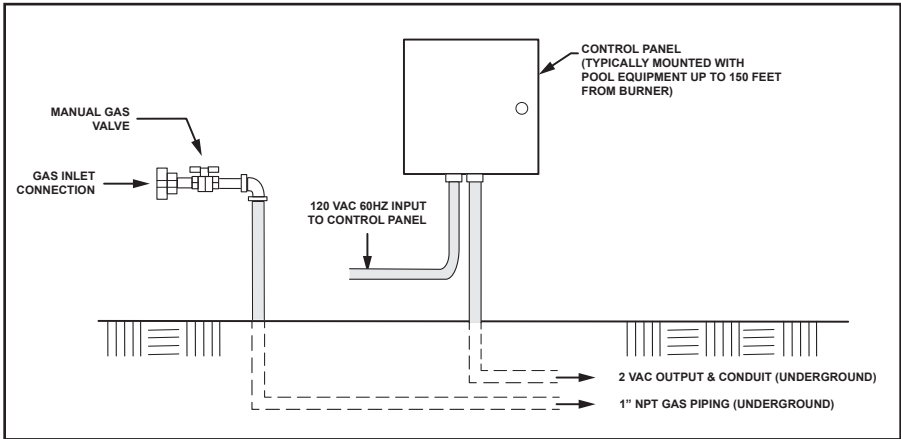
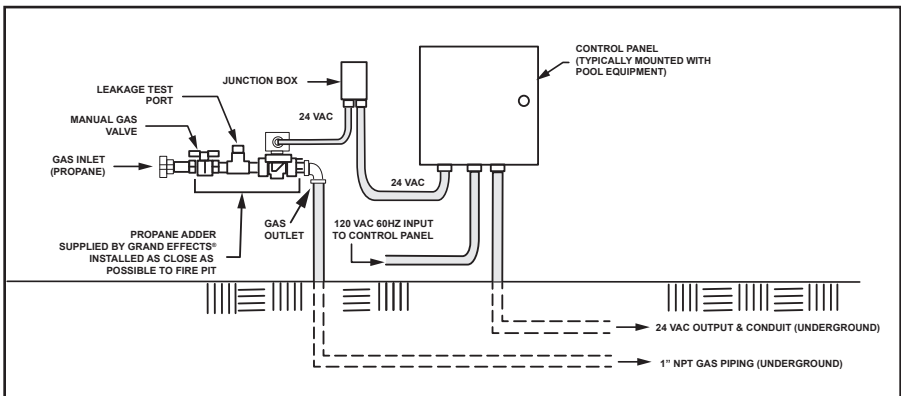
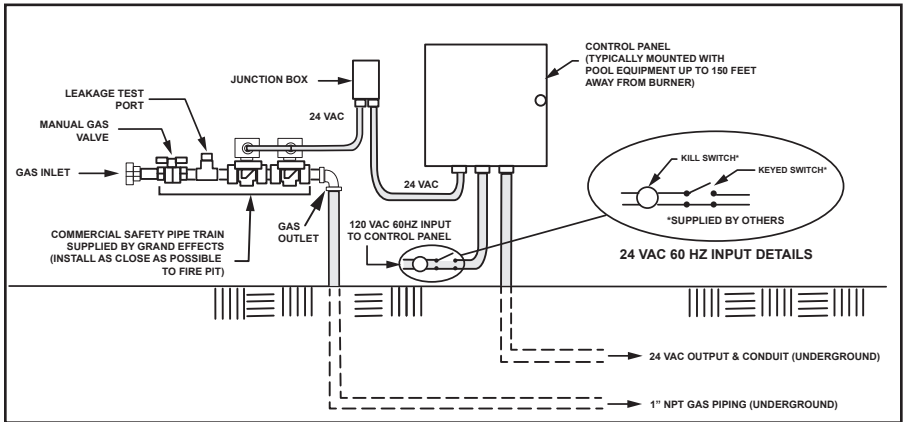

Figure 2. Natural Gas
Figure 3. Propane Gas
Figure 4. Commercial Installation
1. Install the control panel and gas piping as shown in Figure 2: Natural Gas, Figure 3: Propane Gas, or Figure 4: Commercial Installation. Gas lines must be clean and free from any dirt, debris, or contamination.
2. The gas piping must be installed underground between the control panel and each burner, as shown in Figure 2, 3 and 4.
1. The height of the flame can be adjusted at each burner by opening or closing the 3/4" gas valve or keyed valve as shown in Figure 4.